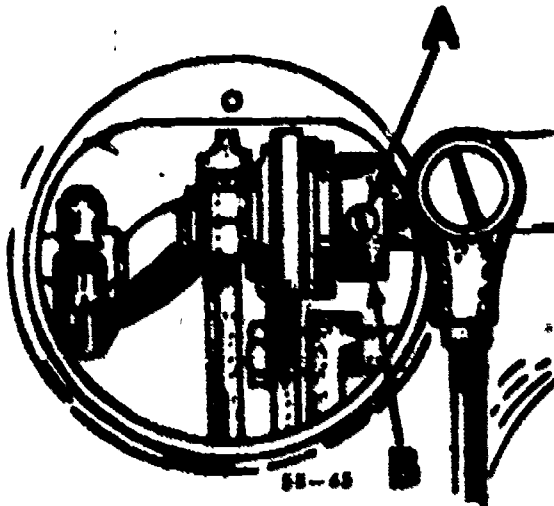

Figure 28. Eccentric Collar and Setscrew.
3. Move to rear of machine and remove arm side cover by removing the thumbscrew, see figure 28.
4. Feed mechanism B, and setscrew A, figure 28, will be visible.
6. Reset feed dog level with throat plate by turning feed mechanism, B figure 28.
8. Holding feed mechanism with right hand, tighten setscrew, A, figure 28.